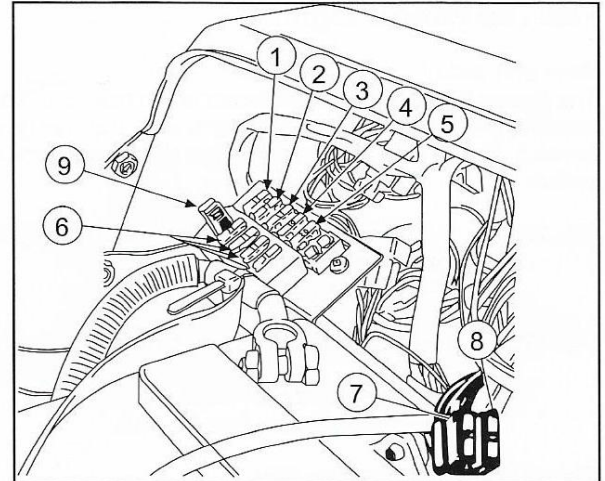

Fig. 127
To renew a blade type line fuse (7 and 8, Fig. 127), hold the black plastic holder and pull out the blown fuse using the plastic orange withdrawal tool (9) supplied in the rubber pad adjacent to fuse box along with spare fuses.